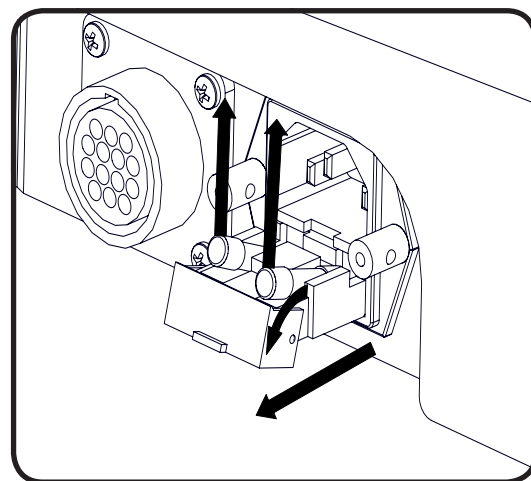

Figure 1
4. Insert new fuse(s) with same type of fuse removed in step 3. (See figure 1 below) See "SPECIFICATIONS" on page 17 for fuse type.